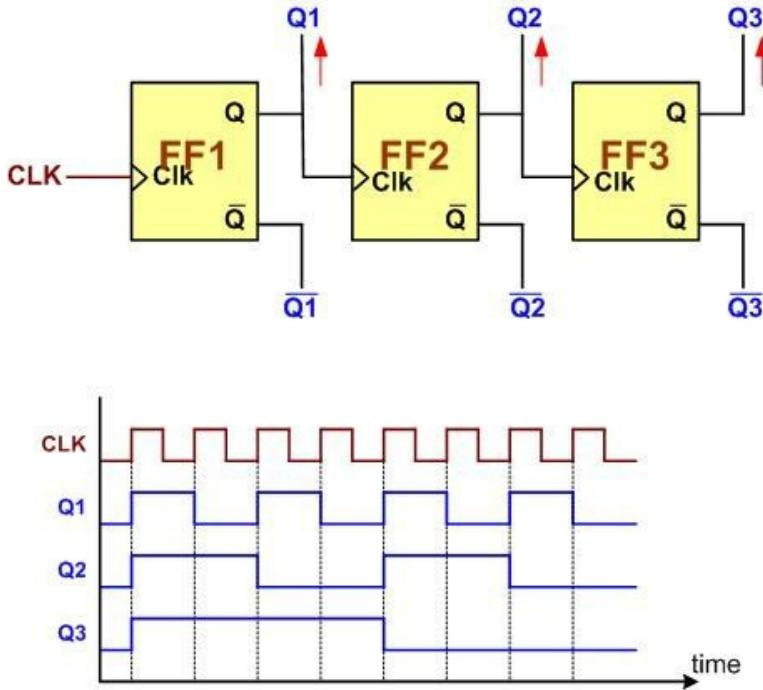

Figure 5-1: A 3-bit Counter
In the digital design course, you connected many flip-flops (FFs) together to create up counter/down counter. For example, connecting 3 FFs together we can count up to 7 (000-111 in binary). This is called *3-bit counter*. The same way, to create a 4-bit counter (counting up to 15, or 0000-1111 in binary) we need 4 FFs. For 16-bit counter, we need 16 FFs and it counts up to $2^{16} - 1$. Figure 5-1 shows the T flip-flop connection and pulse outputs for all three flip-flops.
Regarding Figure 5-1, notice the following points:
- 4) We can use the circuit in Figure 5-1 to divide clock frequency.
- 5) We can use the circuit in Figure 5-1 to count the number of pulses fed to CLK pin of FF1. An up counter begins counting from 0 and its value increases on each clock until it reaches its maximum value. Then, it overflows and rolls over to zero in the next clock. The following figure shows the stages which an 8-bit counter goes through.